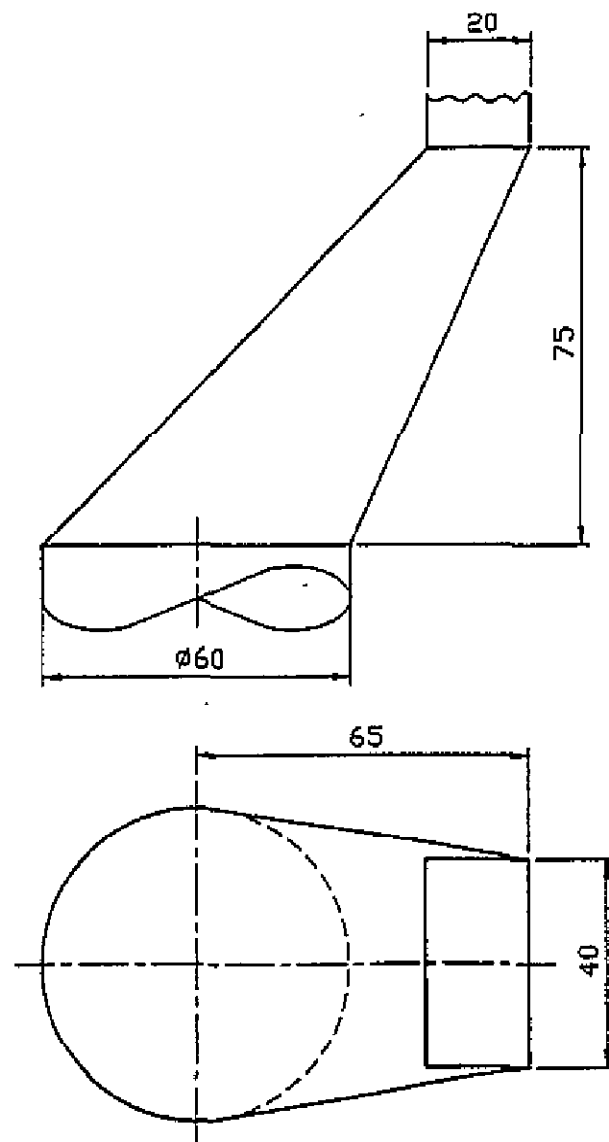

FIG. 2
2. A sheetmetal transition piece, used to connect a rectangular chute to a cylindrical pipe, is shown in Fig. 2.